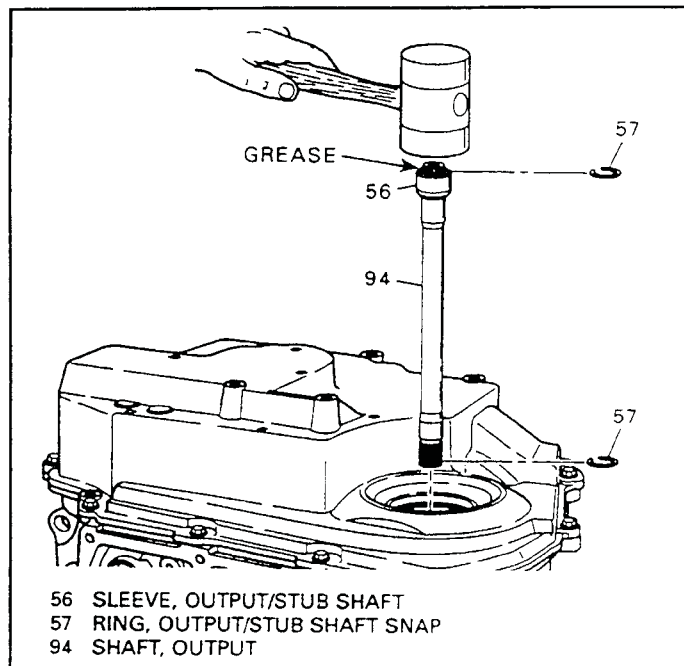

Figure 185
15. Install two new snap rings (57) into the output shaft snap ring grooves (See Figure 185).
16. Install the output shaft and sleeve assembly into the transaxle using a mallet to install the shaft through the differential gear, as shown in Figure 185.